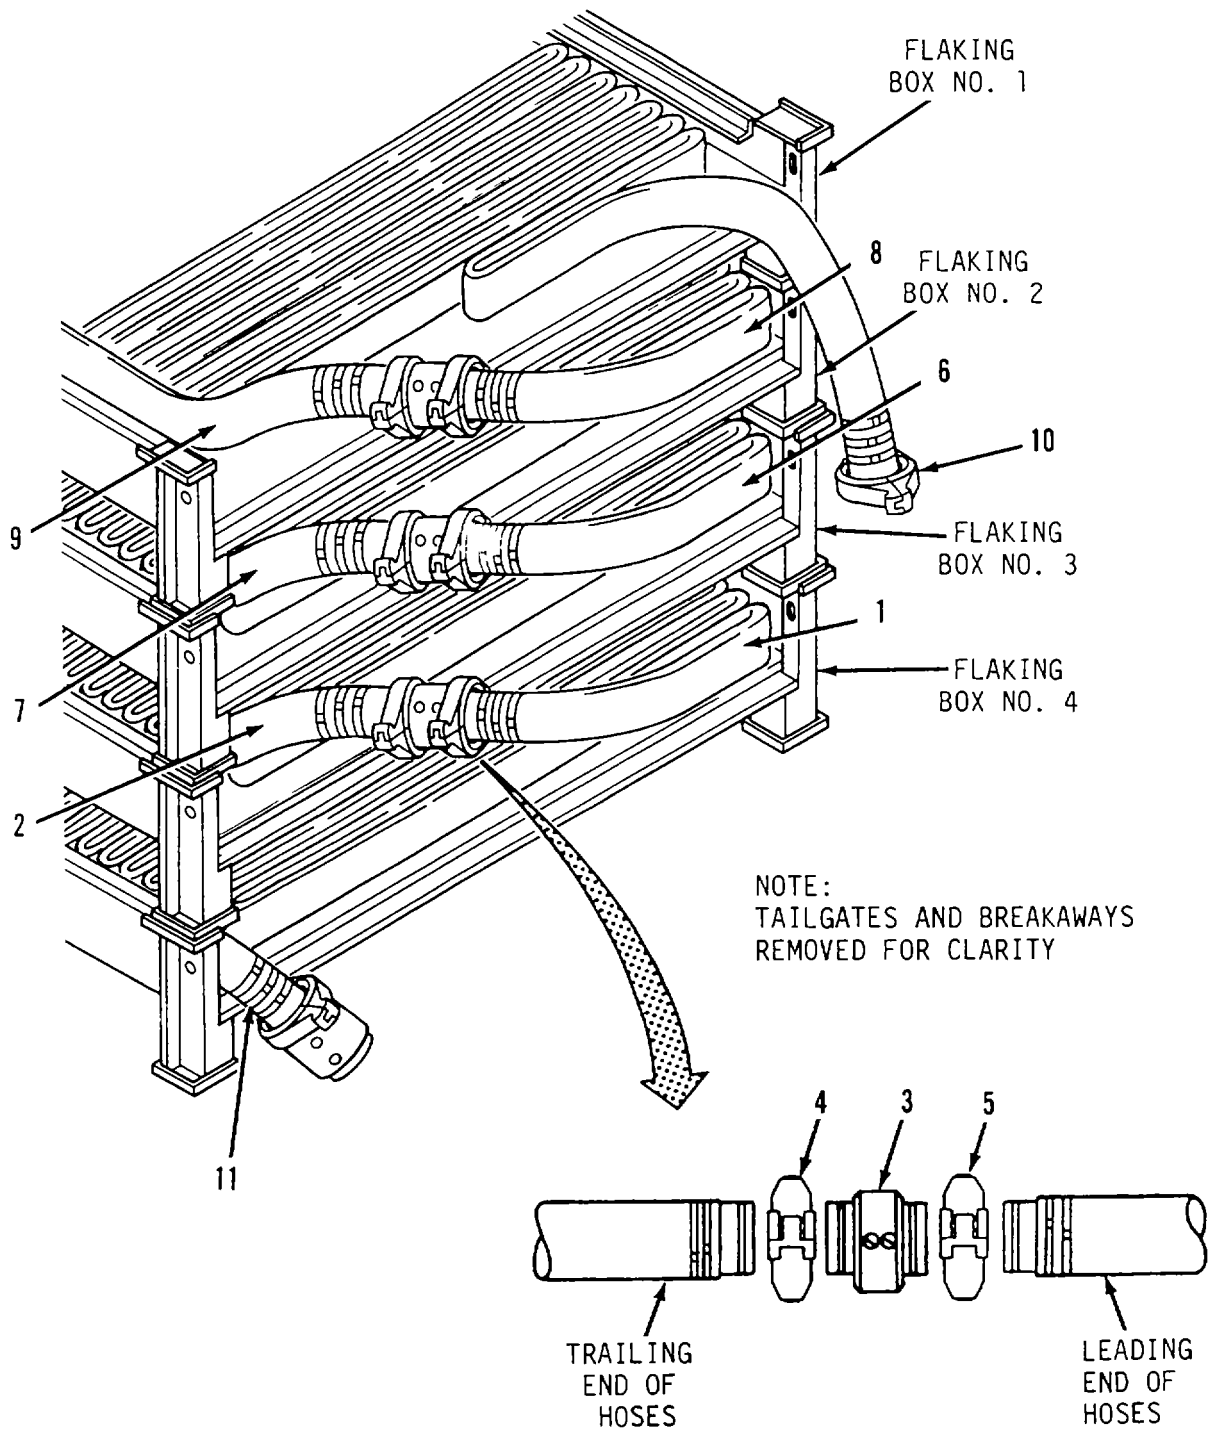

Figure 2-20. Swivel Installation
*Install Swivels Refer to figure 2-20.*